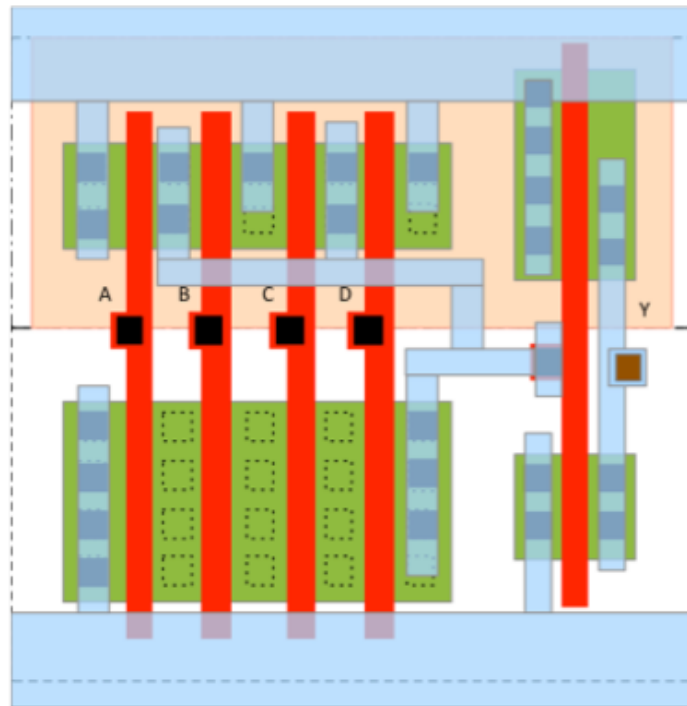

Figure 12.11: One possible layout of the AND4 gate.
1. Layout with minimal number of diffusion areas is shown in Figure 12.11.